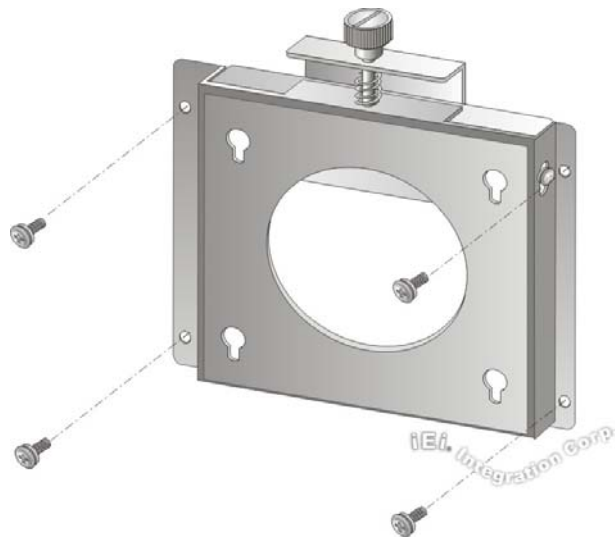

Figure 3-32: Attach Wall Mounting Kit to the Wall
- Step 1:** Attach the wall mounting kit to the mounting surface with the included screws. Make sure it is attached securely (Figure 3-32).